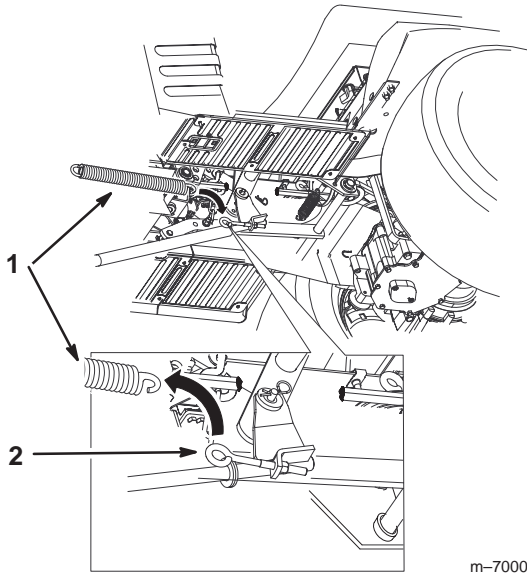

Figure 37
- Loosen the eye bolt attached to the lift tube (fig. 37).
7. Remove the lift spring from the lifttube eyebolt (Fig. 37).